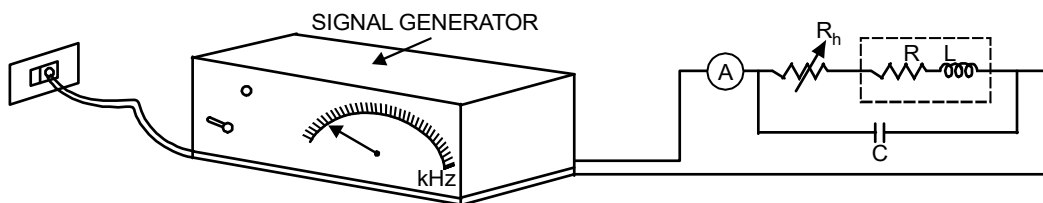

Fig. P2.3: Circuit to determine resonance in R-L-C parallel circuit
8. Switch-OFF the supply and change the connections as shown Fig. P2.3.